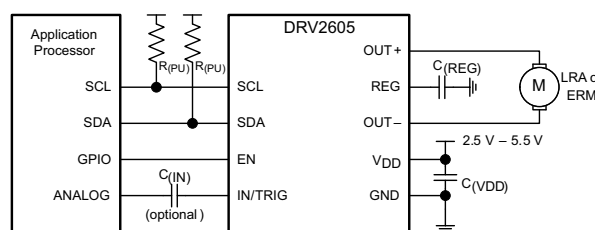

Figure 55. I²C Control With Audio-to-Vibe Input and Optional AC Coupling
A system designer can also implement audio-to-vibe. Figure 55 shows a typical haptic system implementation supporting audio-to-vibe.
The I²C interface is required to configure the device. The device can be used fully with the I²C interface and with either RTP or internal memory. The advantage of using the I²C interface is that no additional GPIO (for the IN/TRIG pin) is required for firing effects, and no PWM signal is required to be generated. Therefore the IN/TRIG pin can be connected to GND. Using the external trigger pin has the advantage that no I²C transaction is required to fire the pre-loaded effect, which is a good choice for interfacing with a button. The PWM interface is available for backward compatibility. If audio-to-vibe is desired, then use C_(IN) as shown in Figure 55.